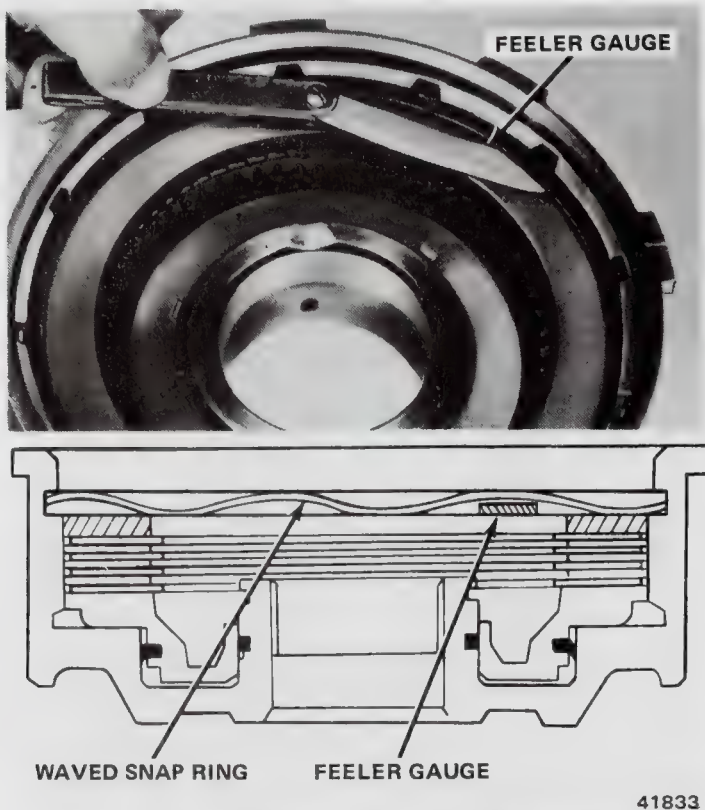

Fig. 2C-77 Measuring Front Clutch Pack Clearance
(12) Measure clutch pack clearance using feeler gauge.
(13) Insert gauge between pressure plate and snap ring (fig. 2C-77). Refer to Clutch Plate Clearance in Specifications for tolerances.